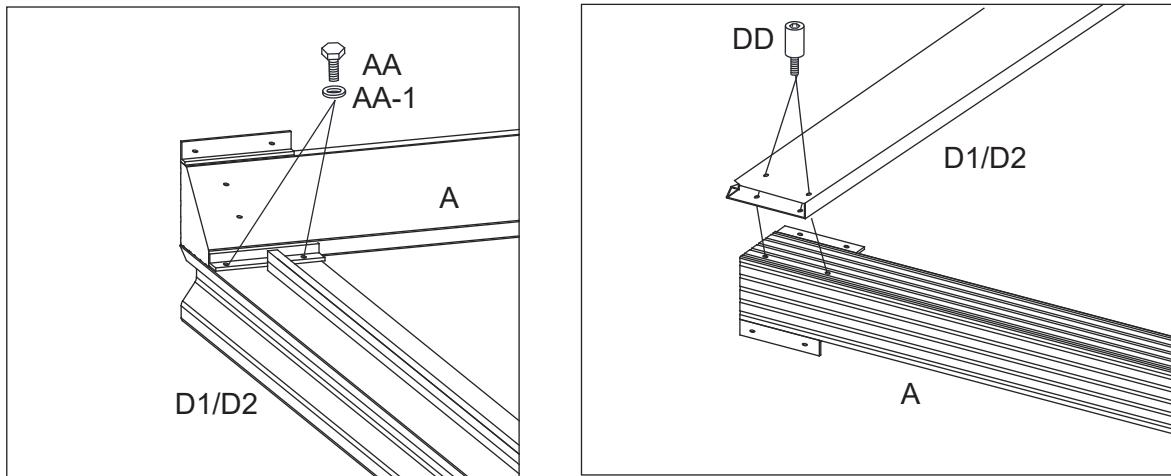

Figure 4-1
4.1: Attach Long Lintels (D1 and D2) to end of Corner Posts (A) first with Bolts (AA) and washer (AA-1) then with Bolts (DD). Tighten all Bolts. See Figure 4-1.